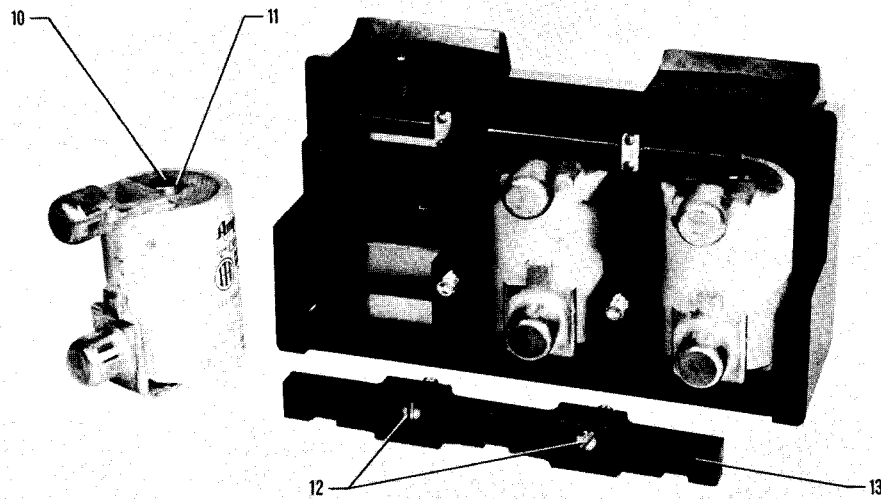

Fig. 2
checked for an "open" condition. Buttons (10, Fig. 2) in "open" Amp-traps project approximately  $\frac{1}{4}$  inch beyond their surrounding bushings (11, Fig. 2). Buttons in good Amp-traps are flush or slightly below the ends of the bushings.
3. Loosen screws (12, Fig. 2) and remove retaining bar (13, Fig. 2). These screws are loosely retained to facilitate replacement of the bar.
5. Replace retaining bar (13, Fig. 2) and secure in place with screws (12, Fig. 2).